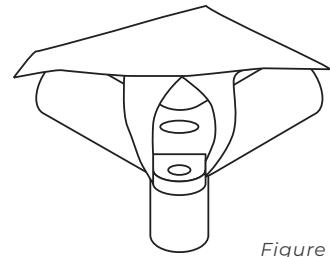

Figure 4
5. Lay the roof canvas over the frame. Pull the nylon loops over the corners as indicated in figure 4. On one of the corners there is a drawstring to make it easier to pull the last loop over the corner.